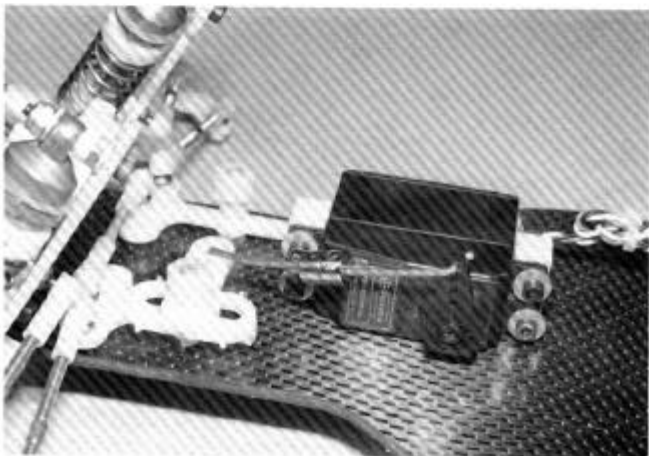

FIG. 143
FIG. 143—Remove from Bag #6-2 the piano wire linkage and set collars. Turn the servo output arm to the left and right stops and then center the arm between these two stops. It will not be exact, but it will be close enough for now. We'll center it exactly with the radio later. Slip one of the "Z" end arms in the servo arm as shown. The "Z" bend arm will be easier to push through the servo saver arm if you take your X-acto knife and rotate it in the hole to bevel it slightly. Center the servo saver and slide on and tighten both locking collars.
STEP 7—Are your wheels now pointed straight forward? If not, refer to Fig. 143 and loosen the two linkage set collars, center the wheels, then re-tighten the collars.